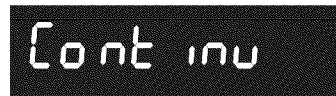

Figure 16: Probe set to continue cooking
2. Press **self clean** key and toggle until **Continu** appears, as shown in Figure 16, then press **start** to accept.